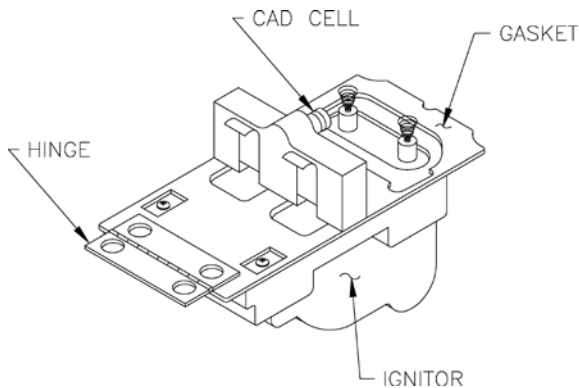

Figure 28: Cad Cell Location
10. Cad Cell Location and Service. The burner is supplied with a cadmium sulfide flame detector mounted at the factory, mounted on the bottom of the electronic ignitor. See Figure 28. To service cad cell or to replace the plug in portion, swing open the ignitor. After service is complete, be sure to fasten down the ignitor.